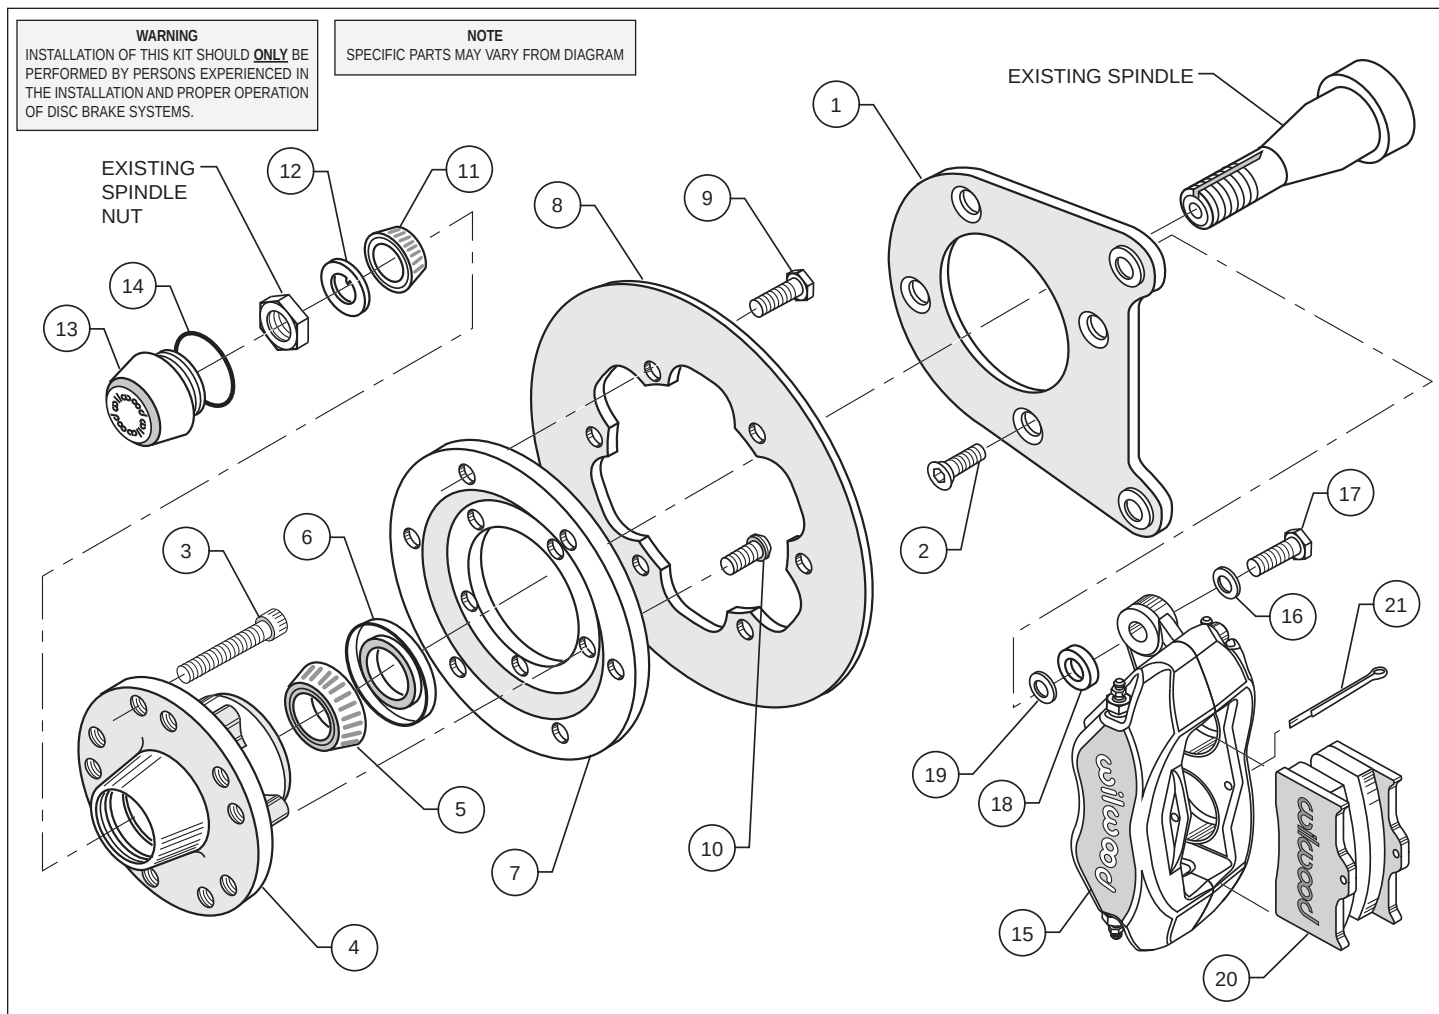

Figure 1. Typical Installation Configuration
- Mount the adapter/rotor assembly (7/8) to the hub (4) using bolts (10) (finger tight), as shown in Figure 1. Using an alternating sequence, remove bolts one at a time, apply red *Loctite*® 271 to the threads, and torque to 55 ft-lb.
- Pack the small outer bearing cone (11) with high temperature disc brake bearing grease and install into front of hub (4). Slide the hub/rotor assembly (4 and 8) with outer bearing cone (11) onto the spindle. Secure using spindle washer (12), adjusting nut, and nut locking device. Adjust bearings per Original Equipment Manufacturer (OEM) specifications.
- Install the dust cap (13) onto the hub (4). Friction created by the o-ring (14) on the dust cap (13) keeps it from unscrewing. The O.D. of the existing spindle washer may be larger than the I.D. of the dust cap (13) not allowing it to seat against the hub face. Some grinding on the washer O.D. may be necessary to clear the I.D. of the dust cap (13).